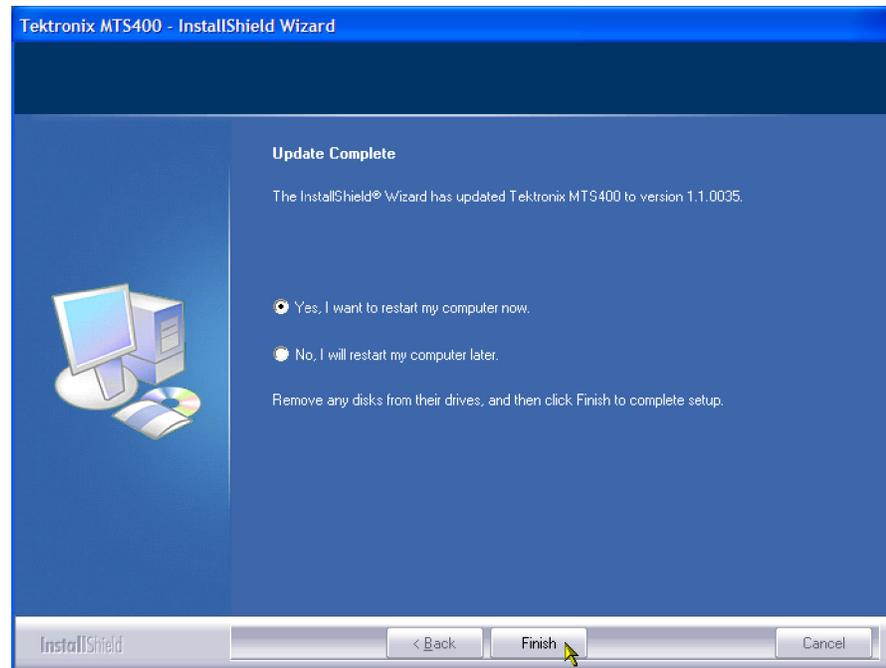

Figure 22: InstallShield Wizard update complete screen
11. When the upgrade installation is complete, the Update Complete screen is displayed as shown in Figure 22.